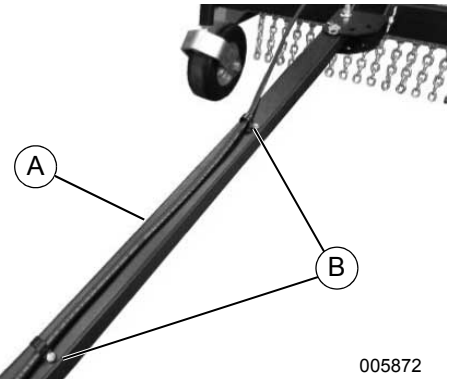

Figure 3-13. Remote Control Cable and Clamps
- See **Figure 3-13**. Remove remote control cable (A) from cable clamps (B).